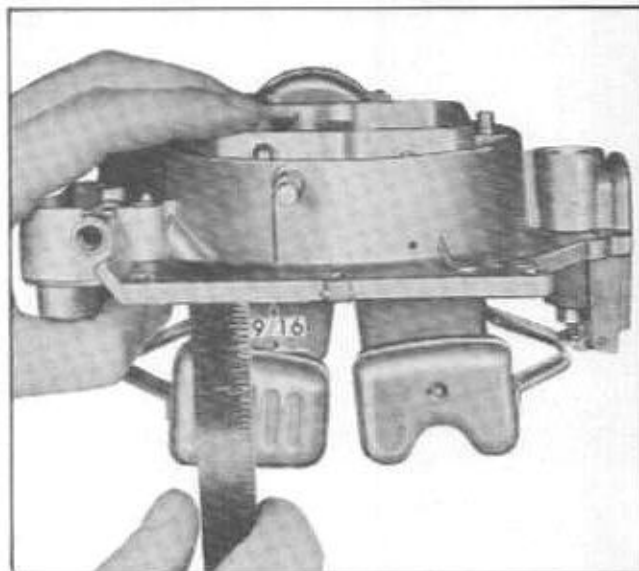

Fig. 6B-29 Measuring Float Drop
10. Install 16 air horn attaching screws. See Fig. 6B-12 for proper location of different length screws.